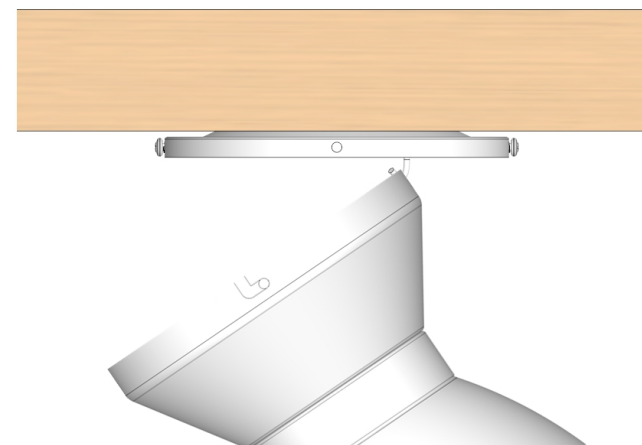

Fig. 3.1
3.1 Carefully lift the fan-motor assembly and hang it using the hook of the mounting plate. Securely suspend the motor assembly by using one of the round holes at the outer rim of the motor housing as shown in Fig. 3.1.